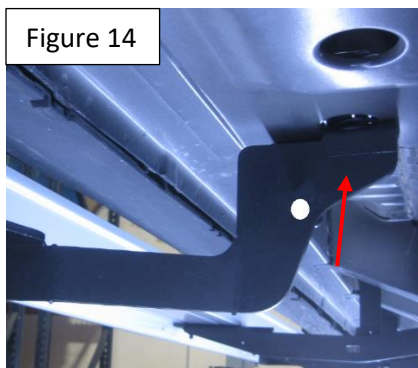
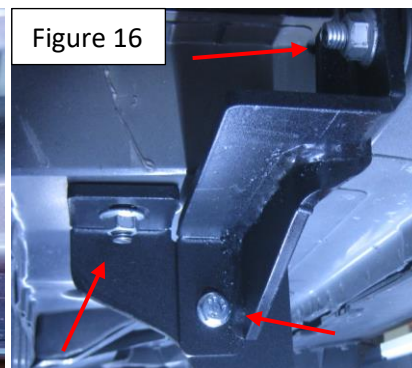

Figure 14
Figure 16
Step 6: Install main rear bracket #5 as shown Figure 14 do not tighten. Install rear support #6 and attach to main bracket using M8 hardware #18, #19 attach both brackets Figure 16 do not tighten.